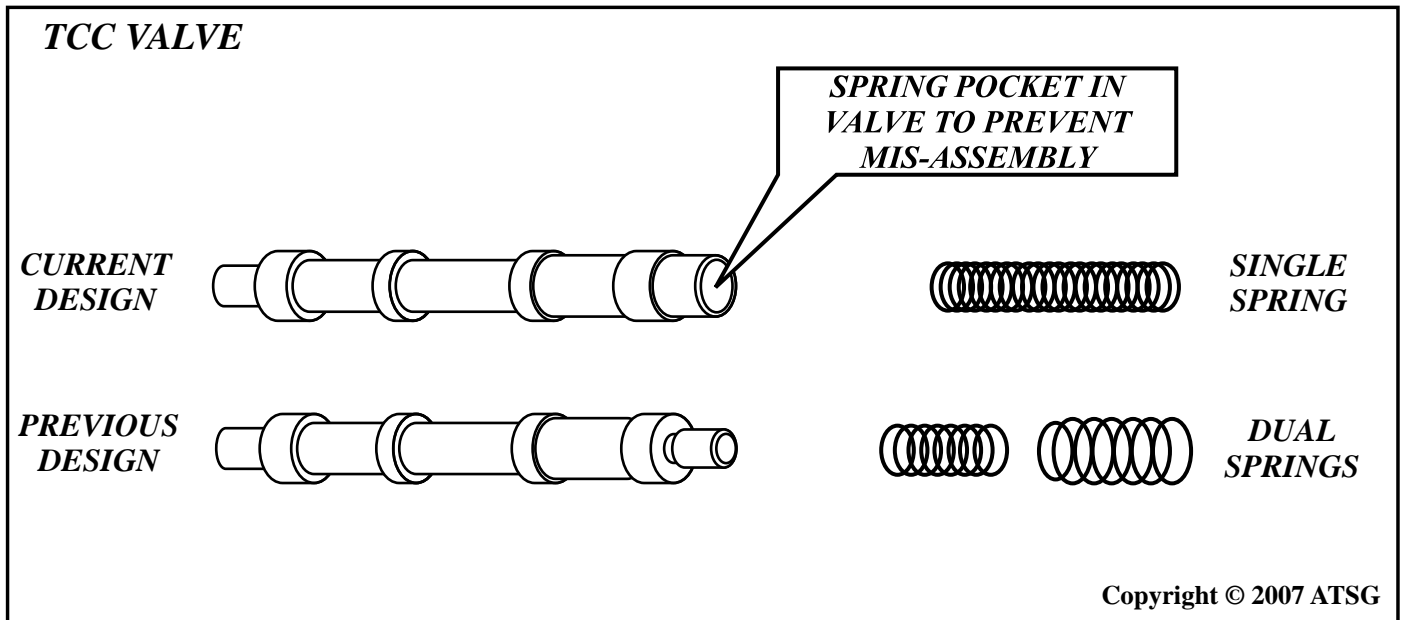

Figure 5
- CHANGE:** (1) Effective February 1st, 2005, the oil pump cover now uses a new design TCC valve with a single spring. (See figure 5)
TCC Valve - The new design TCC valve uses a single spring and is shown along with the previous design level valve with dual springs in figure 5. The new valve incorporates a spring pocket to prevent incorrect installation by only allowing the spring to be assembled into the pocket end of the valve. Components of the previous and current designs may not be intermixed. However, the current design TCC valve and spring can be used to back service the previous design level.